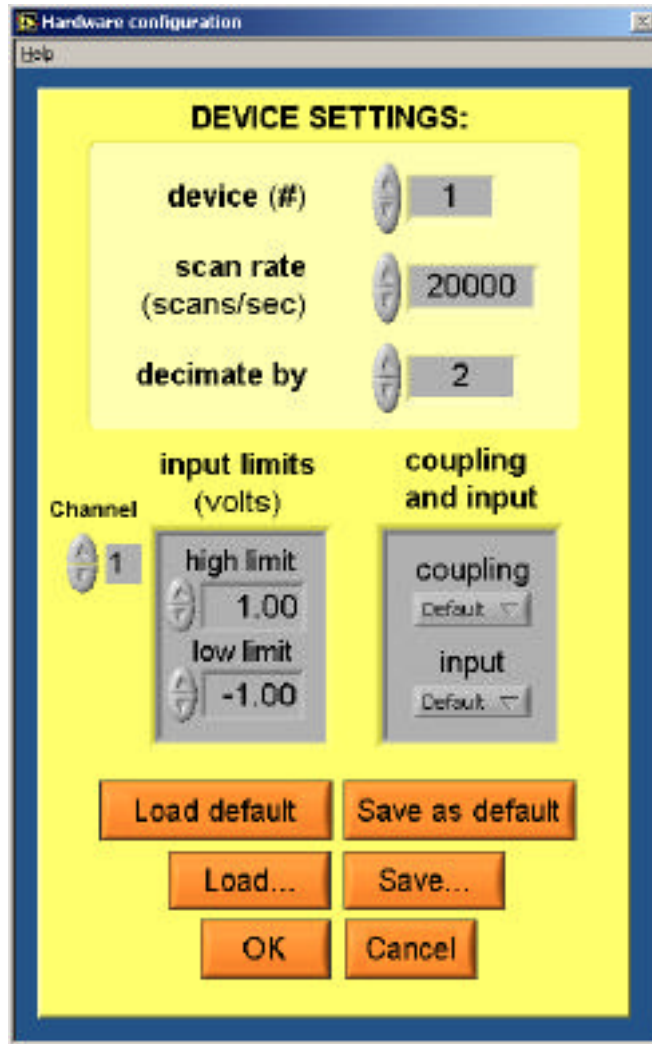
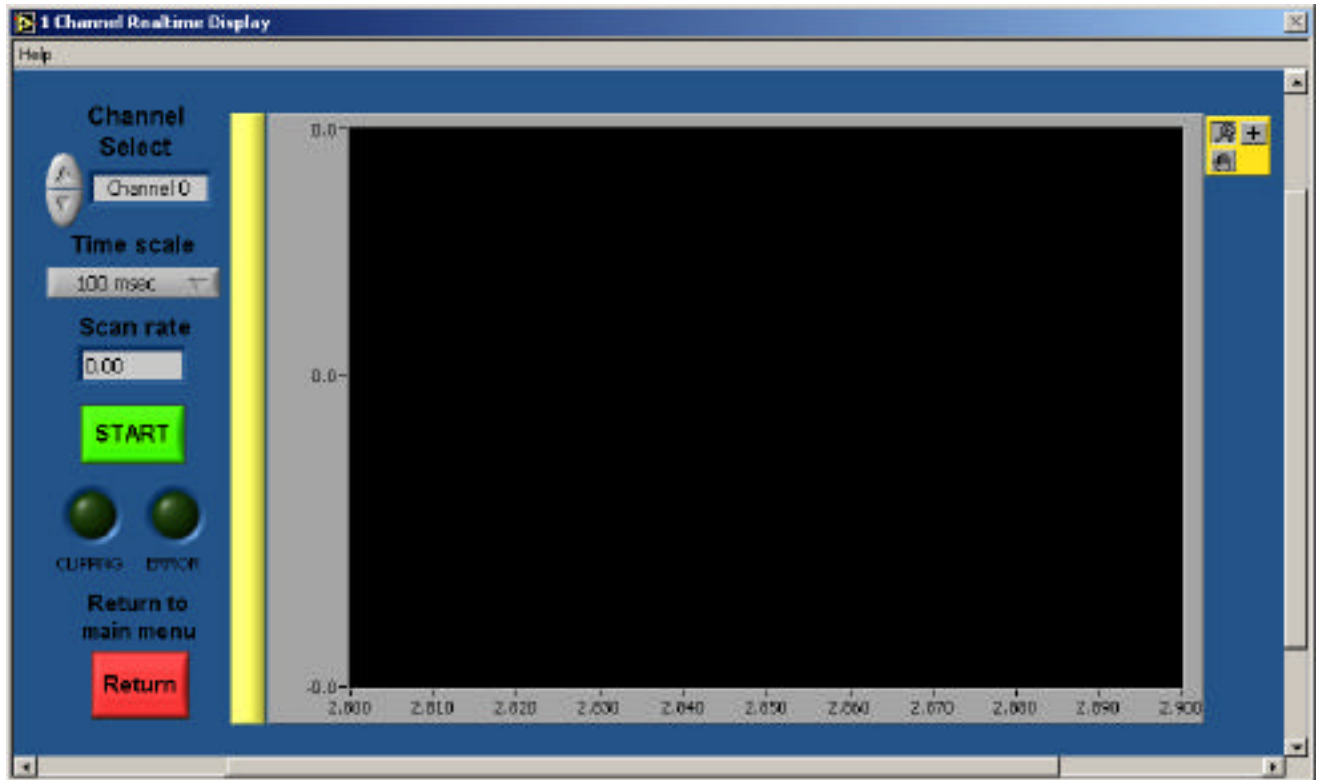

Figure 5.2. The hardware configuration screen.
Figure 5.3. Real time configuration screen.
The configuration screen is shown in Figure 5.2. Here, you can load the default setting (Load default), load any configuration file (Load...), save the current settings as the default setting (Save as default), save the current settings to a file (Save...), do nothing and leave the program (Cancel), or use the current settings for the current DAQ session without saving them to a file (OK). The configuration files can be named anything; they are stored in text format. A help menu explains all the settings available.
Two options are given for real-time data display – a 1 channel display and a 4 channel display. They work in the same way, so we'll go through just the 1 channel, shown in Figure 5.3. First, select a channel to display and a time scale to display it with. Values from 5 msec to 1000 msec may be chosen, and that amount of data will be displayed at once. This value also controls the refresh rate. The scan rate in Hz is displayed below the time scale, and is set in the hardware configuration screen (see Figure 5.2). The scan rate is the entered scan rate divided by the decimation factor.